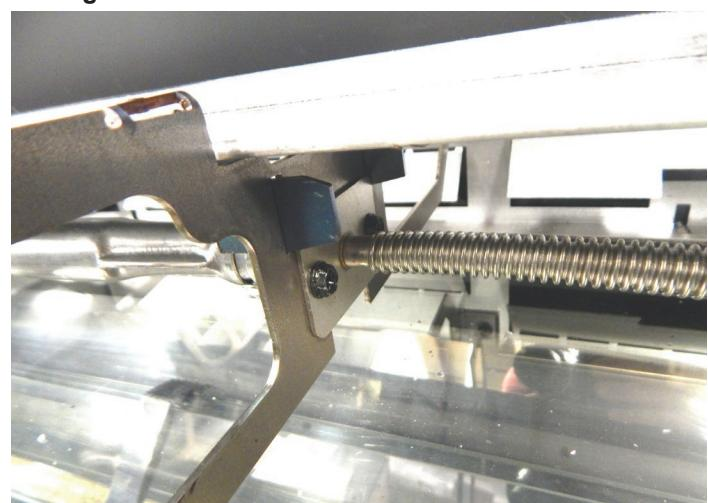

Figure 8
15. Re-install the Burner assembly. Align the air shutter over the orifice holder then shift burner assembly to the right. Make sure the center burner retainer tabs are fully engaged with the center support brackets. **See Figure 8.**